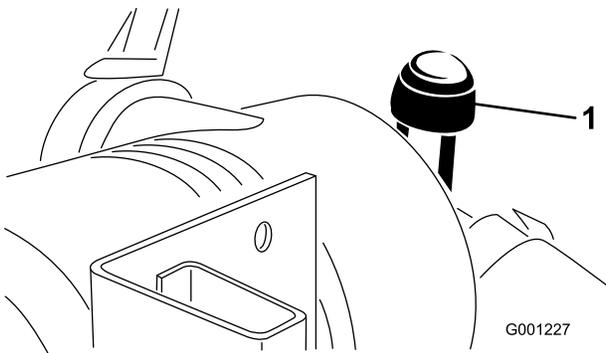

Figure 46
- Service the air cleaner filter when the air cleaner indicator (Figure 46) shows red or every 400 hours (more frequently in extremely dusty or dirty conditions). Do not over service the air filter.
9. Reset the indicator (Figure 46) if showing red.